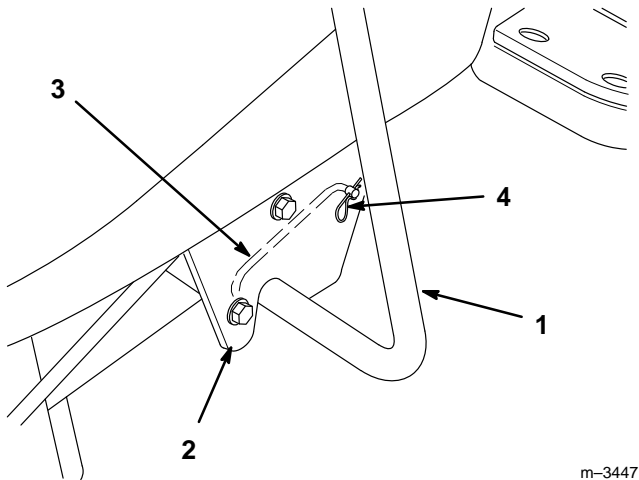

Figure 22
8. On the left side of the tractor, remove the hairpin cotter from the positioning pin, and remove the crank support (Fig. 22).